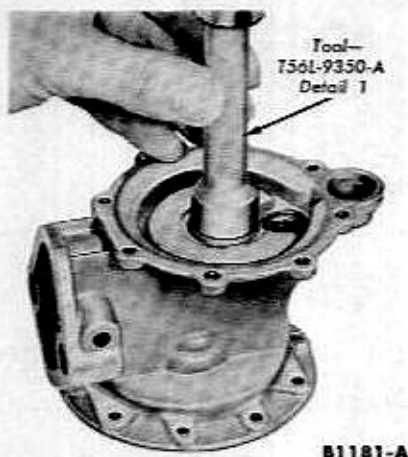

FIG. 3—Diaphragm Rod Oil Seal and Retainer Installation
1. Install the diaphragm rod oil seals and seal retainers (Fig. 3), then stake the seal retainers in place.
the tool shown in Fig. 3, then stake them in place.